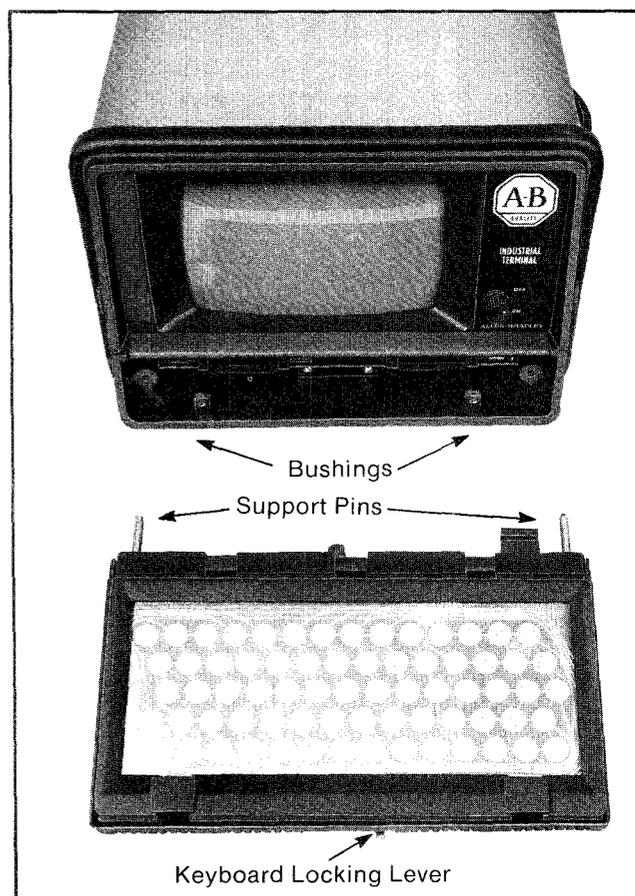

FIGURE 3-1 — Attaching Keyboard Module
4. Align the two support pins on the keyboard with the bushings on the front of the chassis (Figure 3-1) and insert the keyboard.